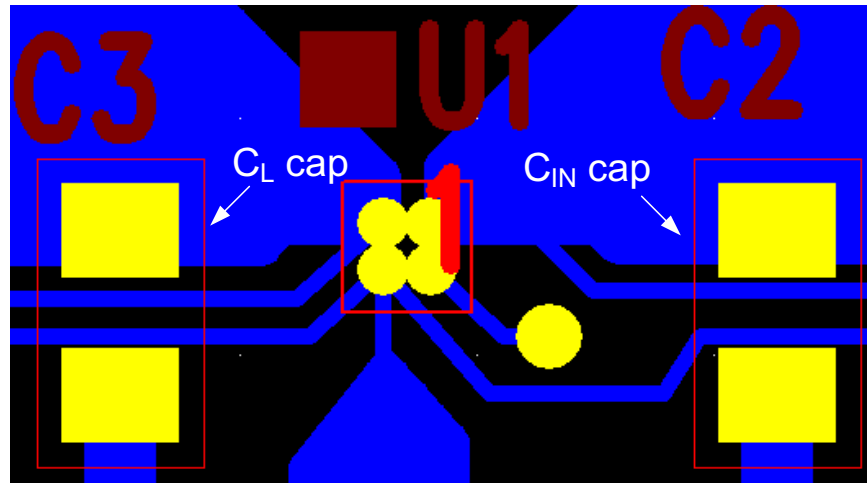

Figure 11-1. Layout Recommendation
**Figure 11-1** shows an example of a layout.